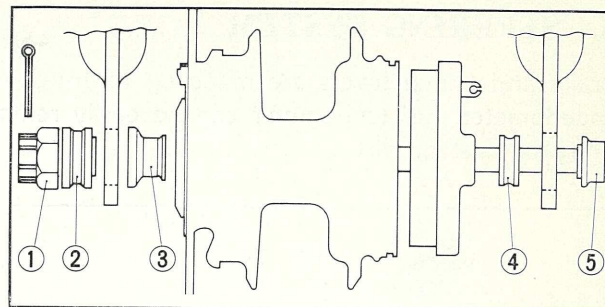

Fig. 2-16 ① Axle nut
2. Attach each collar as in Fig. 2-16 and install rear wheel axle to rear fork.